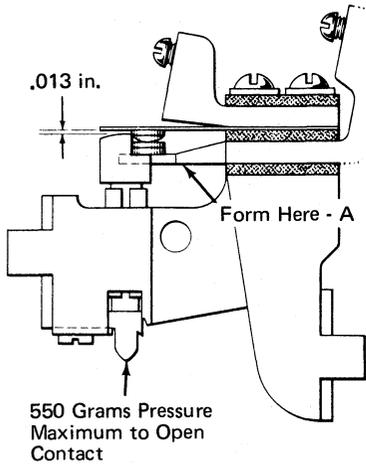

Figure 3-11. N/C Plunger Circuit Breaker—Adjustment 1 and 2
1. The lower contact support should be formed at point A (Figure 3-11) to provide a .013-inch clearance between the upper contact strap when it is in its normal position and the operating plunger.
2. A maximum pressure of 550 grams (approximately 19.4 oz.) on the contact plunger should be required to just open the contact points (Figure 3-11).